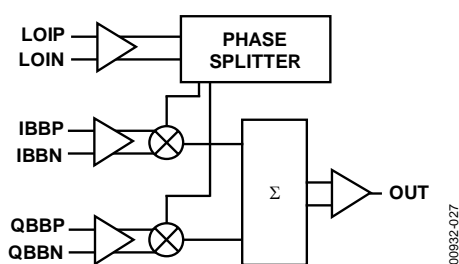

Figure 27. AD8345 Block Diagram
The AD8345 can be divided into the following sections: local oscillator (LO) interface, mixer, differential voltage-to-current (V-to-I) converter, differential-to-single-ended (D-to-S) converter, and bias. A block diagram of the part is shown in Figure 27.